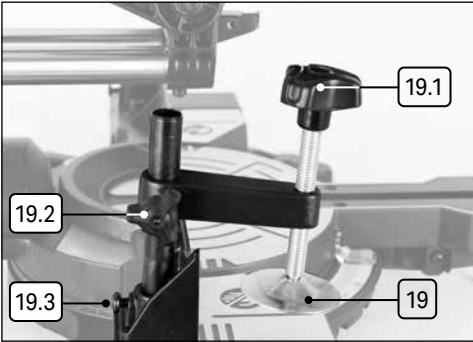

Fig. 5
6.6 Workpiece Clamp – Fig.5
- The workpiece clamp (19) can be attached either side of the table on the rear fence.